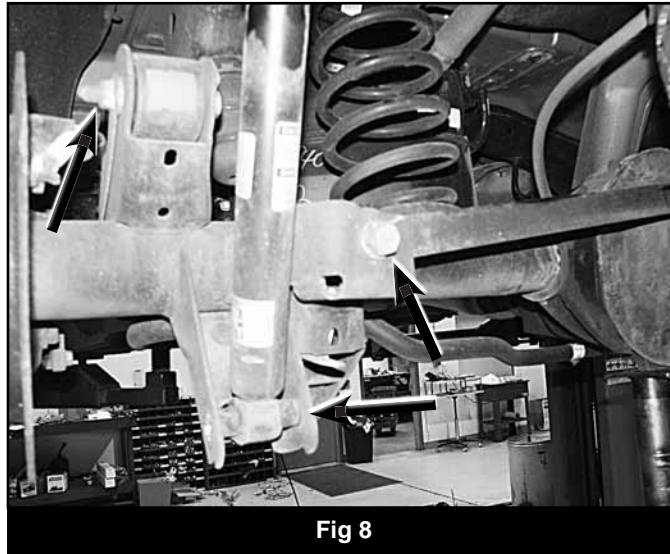

**Fig 7**
15. Install the modified strut assembly in the vehicle by aligning the studs in the top plate with the original mounting holes. The third hole in the plate will align with an existing hole in the frame. Fasten the strut to the frame with 10mm nuts and 3/8" USS washers on the two studs (Fig. 7). Leave hardware loose.